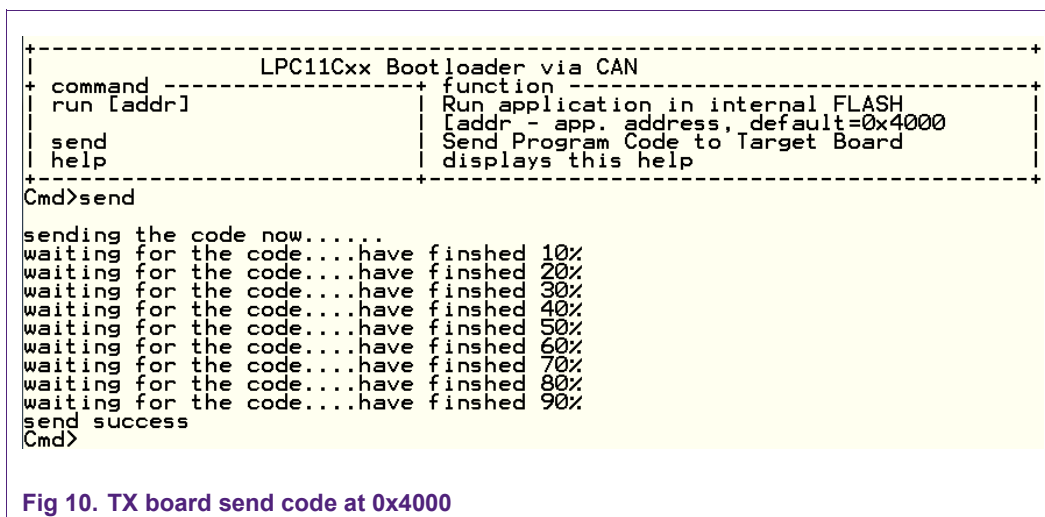

Fig 10. TX board send code at 0x4000
- 5) To start the IAP through CAN, reset the TX board, go to start menu again and enter "send" command. Before entering "send" command, make sure RX board is in the "demo" status after setting up the RX board, step 8) see Fig 10.